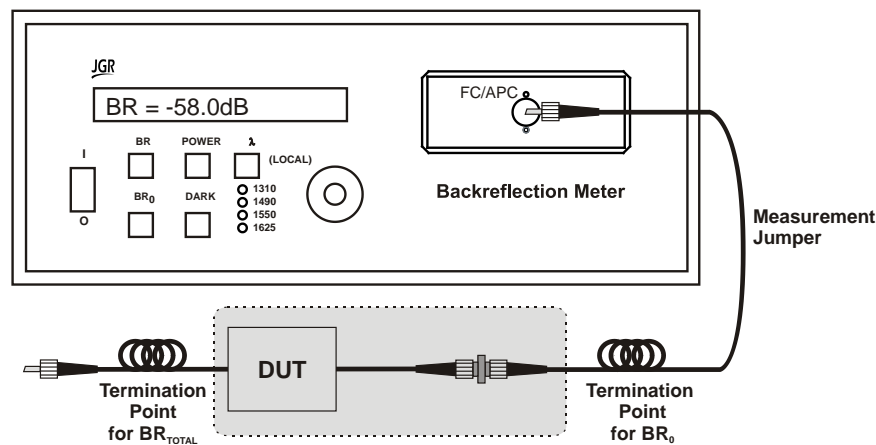

Figure 7: Backreflection measurement area
4. The meter displays the backreflection that is caused by the fiber, all connections, and the DUT that lies between the two termination points (that is the termination point for BR₀ and the current termination point. This area is shown within the dashed line in Figure 7.